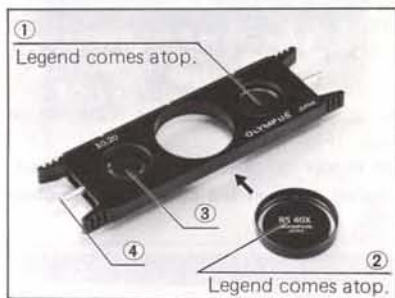

Fig. 15
Put the light annuli for 4X ① and 40X ② objectives into the phase slider. The annulus ③ for 10X is also used for 20X objectives. The annuli for 4X and 10X (20X) objectives are centered by means of the centering lever ④. (Fig. 15)